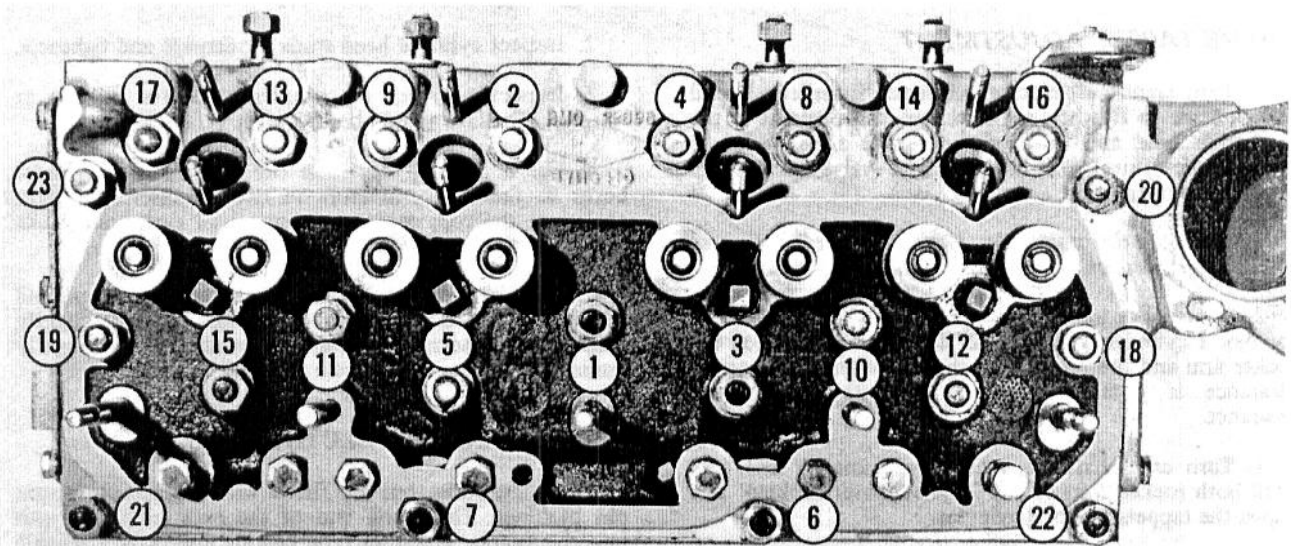

Fig. 8 - Correct Sequence for Tightening Head Nuts
3. Install cylinder head and tighten nuts in the order shown in Fig. 8. Gradually tighten to 55-60 ft.-lbs. torque. (Go over nuts several times before pulling them down to their final torque. Then repeat the last stage of tightening to make sure there is no loss of torque on any nuts.)